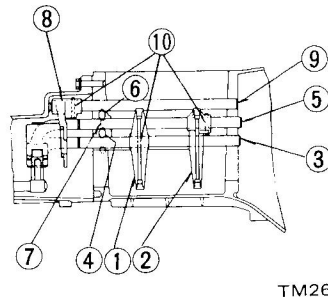

Fig. TM-48 Installing shift rod and shift fork
1. Align 1st-2nd shift fork ① and 3rd-4th shift fork ② with the grooves in respective coupling sleeves and reverse-shift fork with the groove in reverse gear. See Figure TM-48.
2. Insert 1st-2nd shift rod ③ into position and drive in pin (10. With 1st-2nd shift rod in neutral position,